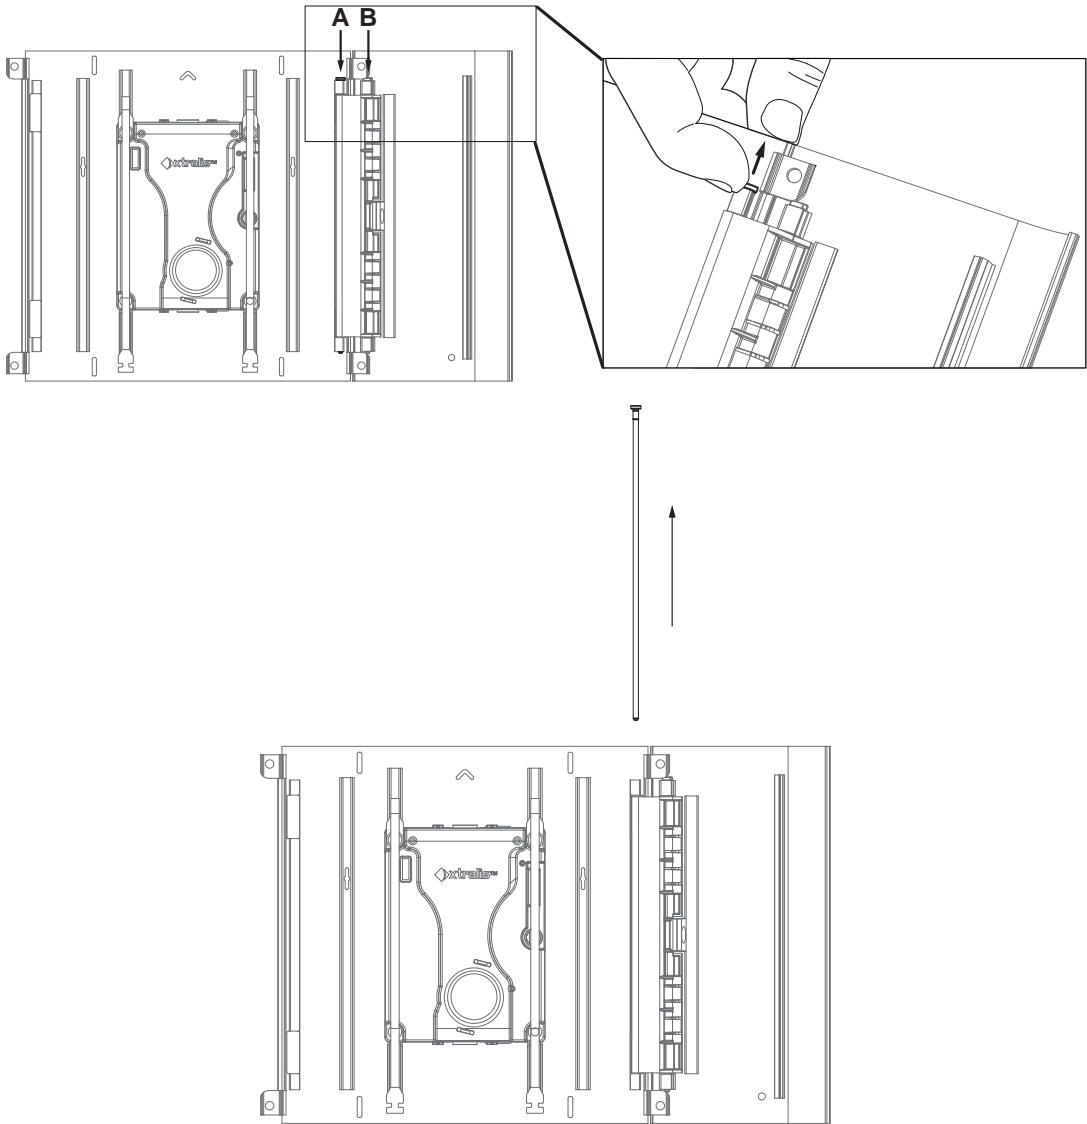
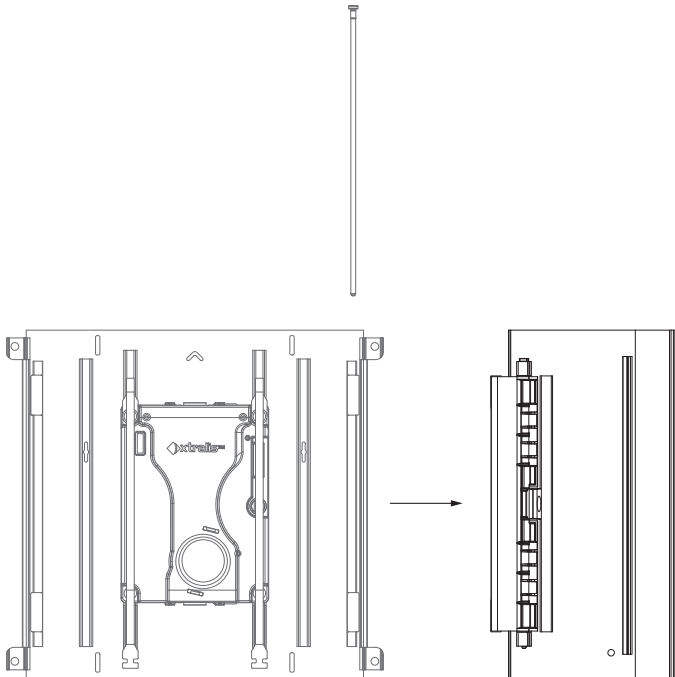

Figure 4-9: Removing door hinge pin A
Figure 4-10: Detaching door
5. Detach the front door from the fascia by removing pin A from the hinge (Figure 4-9, Figure 4-10). Leave pin B in place – do not remove it.